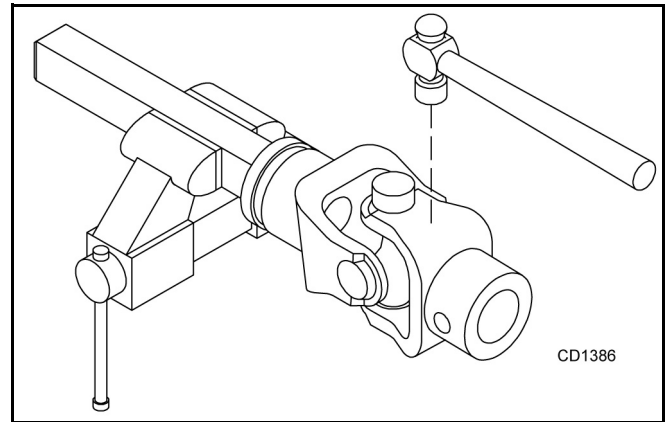

Figure 29.
3. Clamp cup in vise as shown in Figure 29 and tap on yoke to completely remove cup from yoke. Repeat step 2 & step 3 for opposite cup.